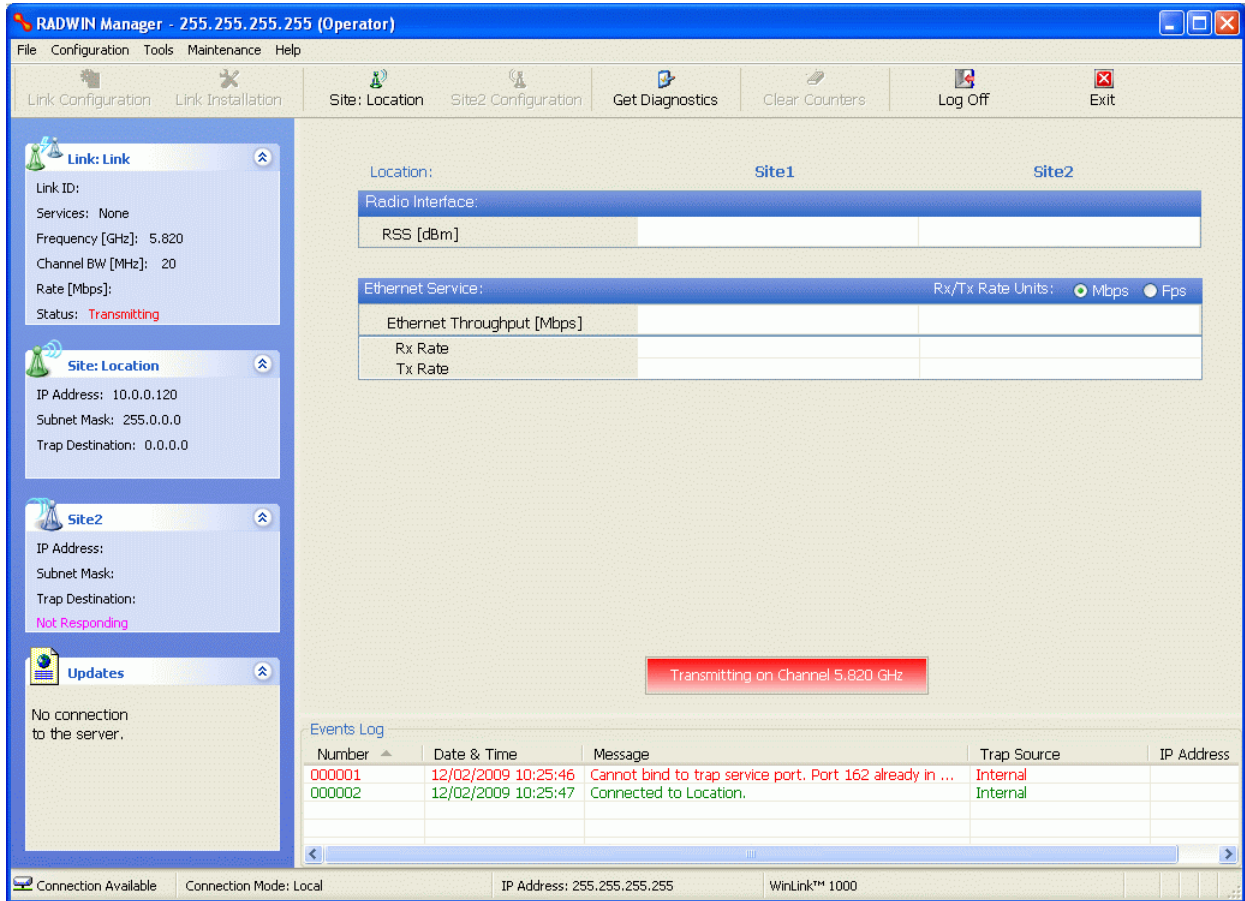

Figure 19-2: Opening RADWIN Manager window prior to installation
- Click **Cancel** to leave the open Management dialog. You may now exit the RADWIN Manager, or connect to another ODU. If you choose to connect to another ODU, after about a minute, the main window of the RADWIN Manager will revert to that shown in Figure 19-2 above. In any event, power down the changed ODU; your changes will take effect when you power it up again.